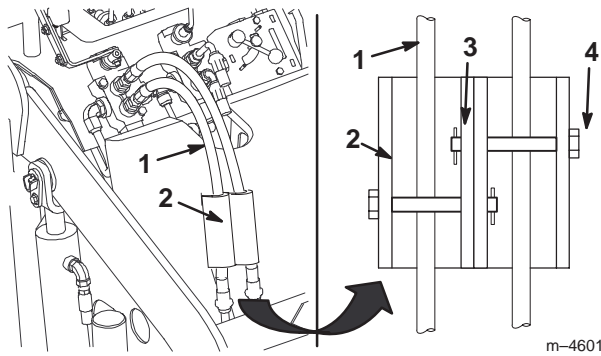

Figure 18
7. Install the cylinder locks over the hydraulic hoses and secure them with the clevis pins and cotter pins (Fig. 18).